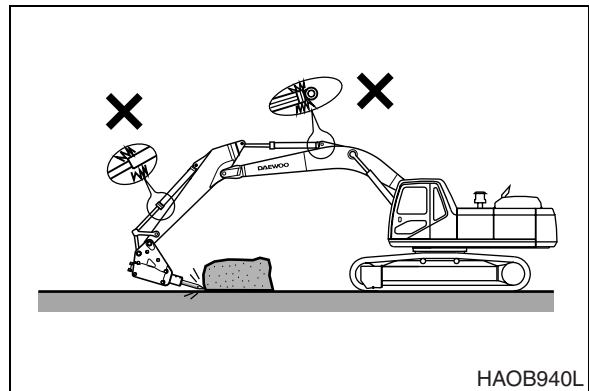

Figure 72
4. Do not operate the breaker with the boom or arm cylinders fully extended (bottomed out). See Figure 72.